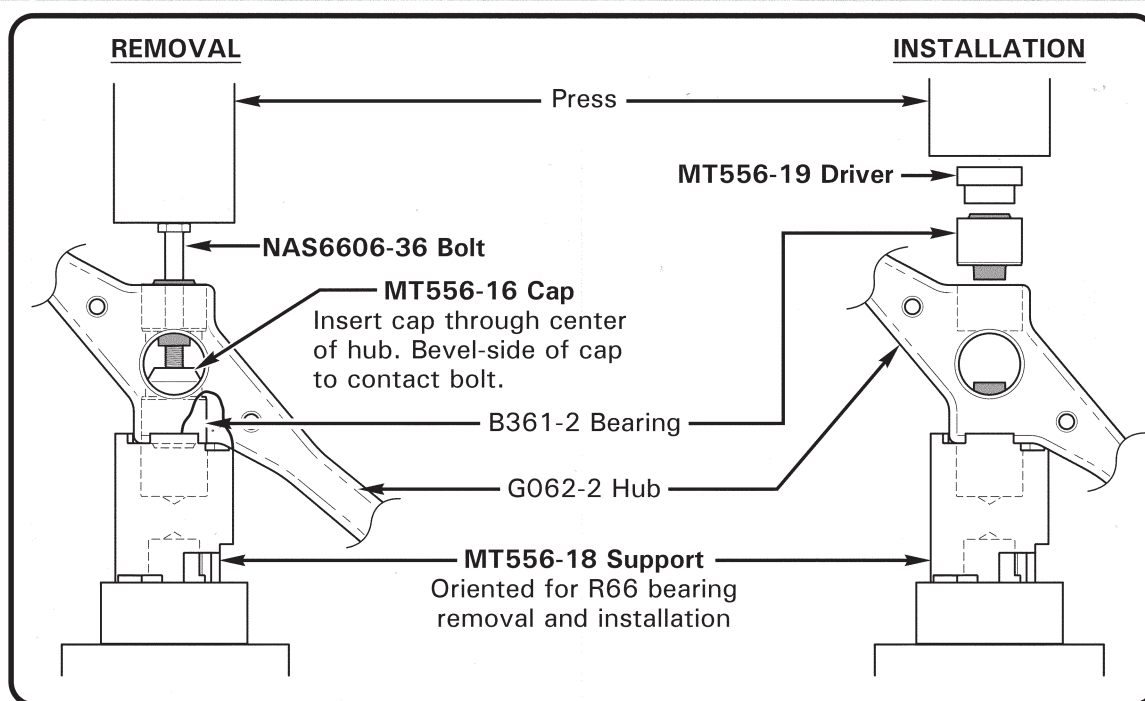

FIGURE 64-9 MT556-17 (ALL-MODEL) TAIL ROTOR HUB BEARING REPLACEMENT TOOL KIT
3. Refer to Figures 64-9 and 64-10, as applicable. Press bearing(s) from hub using MT556-17 or MT556-11 bearing replacement tools as shown.
2. Refer to Figures 64-9 and 64-10, as applicable. Using a cotton or foam tipped applicator, apply light coat of approved primer per § 20-70 to bottom of hub bearing bore. Apply a thin line of primer to center of bearing outside diameter. While primer is wet, press bearing(s) into hub using MT556-17 or MT556-11 bearing replacement tools as shown. Wipe away excess primer.